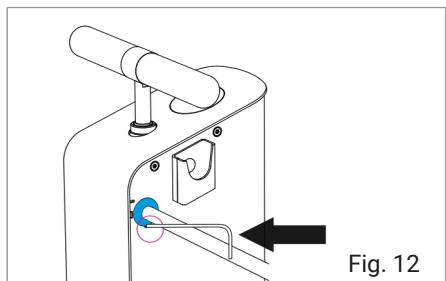

Fig. 12
- 1 There is a small hole in the sheet metal below the sealing grommet of the pump hose (Fig. 12). Now take a small Allen key and insert it into the hole. Now carefully lever the hose nozzle out of the large sheet metal cut-out by exerting slight pressure in the direction of the hose and moving all the way round the nozzle with the Allen key. Slide the hose nozzle on the hose in the direction of the pump head.